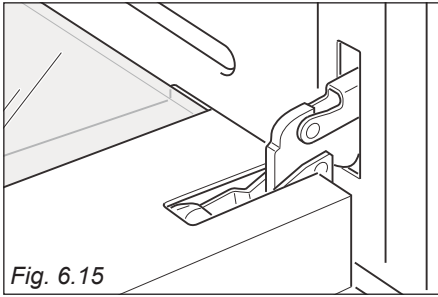

Fig. 6.15
- Open the door to the full extent (fig. 6.15).